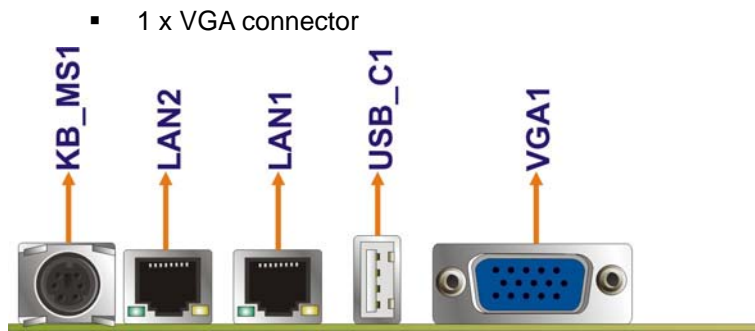

Figure 4-18: 2808130 External Peripheral Interface Connector
Figure 4-18 shows the 2808130 external peripheral interface connector (EPIC) panel. The 2808130 EPIC panel consists of the following:
CN Location: See **Figure 4-18**
CN Location: See Figure 4-18
- CN Location:** See **Figure 4-18** (see 2)
- CN Location:** See **Figure 4-18**